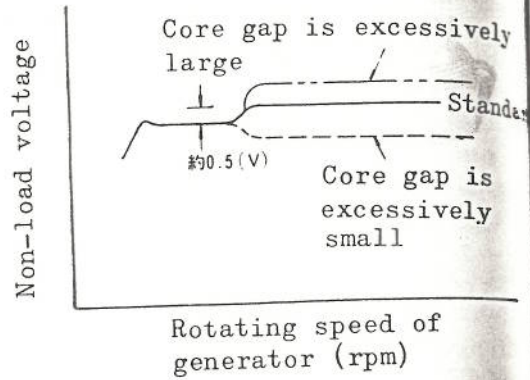

Fig. 10-18
- 9) When the generator is properly adjusted, the output voltage becomes as illustrated in Fig. 10-18.